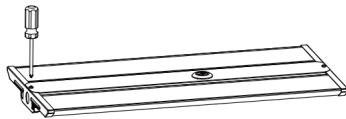

Figure 7
Step 1. Unscrew the two screws on the front of the lamp; (Figure 7)